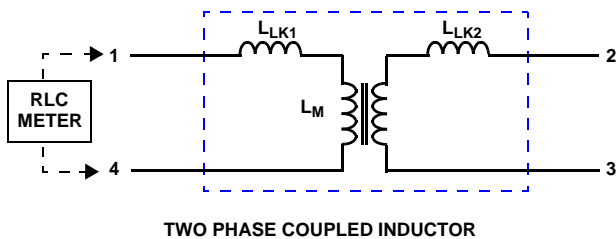

FIGURE 4. EQUIVALENT MAGNETIC CIRCUIT OF THE COUPLED INDUCTOR
The leakage inductance of the CI must be determined to design and model with CI's, including using Equations 3-8. There are several methods for accurately determining the leakage inductance per phase of the coupled inductor; two methods are outlined here. Figure 4 depicts an equivalent magnetic circuit for the coupled inductor.
1. Leave the secondary winding, pins 2 and 3 in Figure 4, open circuit. The measured inductance from pins 1 to 4 is the primary winding inductance or self inductance. Call this  $L$ .
2. Short circuit the secondary winding, pins 2 and 3 in Figure 4. The measured inductance from pins 1 to 4 is the leakage inductance of the primary plus the reflected leakage from the secondary. Call this  $L_s$ .